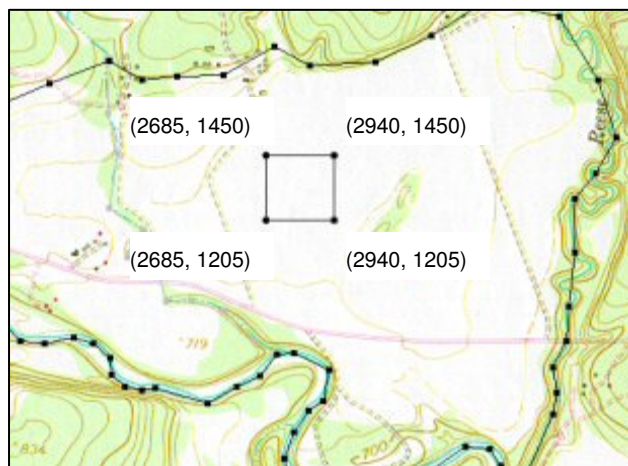

Figure 9-1 Landfill
2. Create a rectangular polygon representing the landfill as shown in Figure 9-1. Don't worry about getting the exact coordinates at this point.